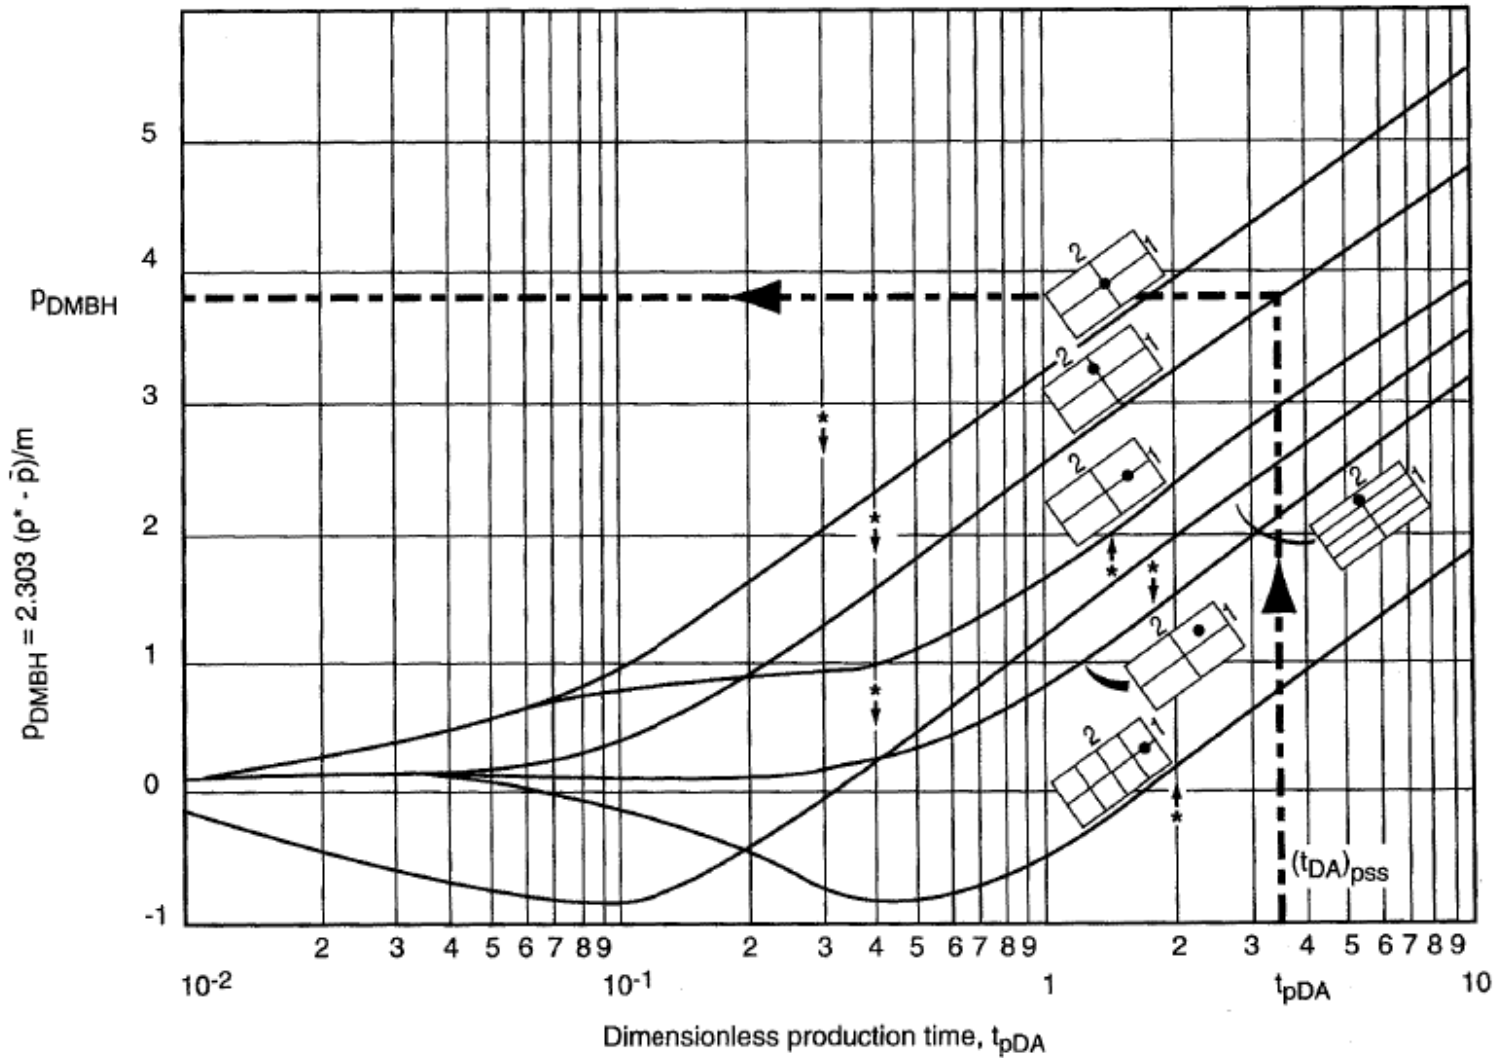

Fig. 11.8
2. Choose the curve corresponding to the reservoir-well configuration of the test (Figure 11.8 - 1.11).